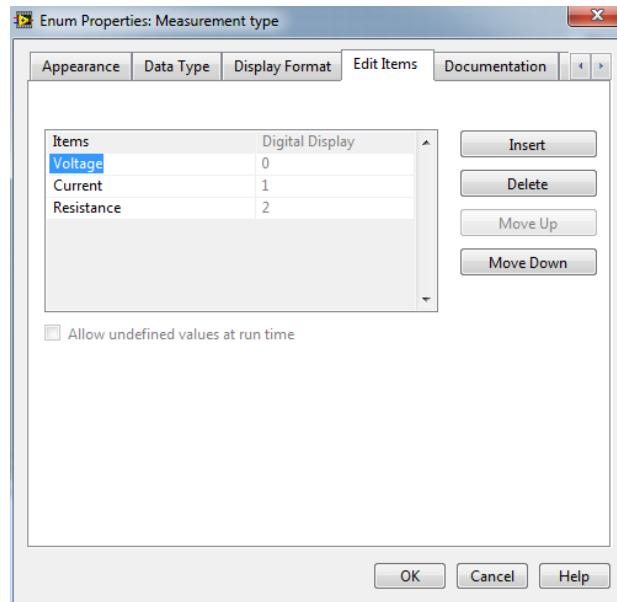

Figure 3.5: Enum Properties Menu
14. On front panel, right click on Enum and select Edit Items (Figure 3.5)